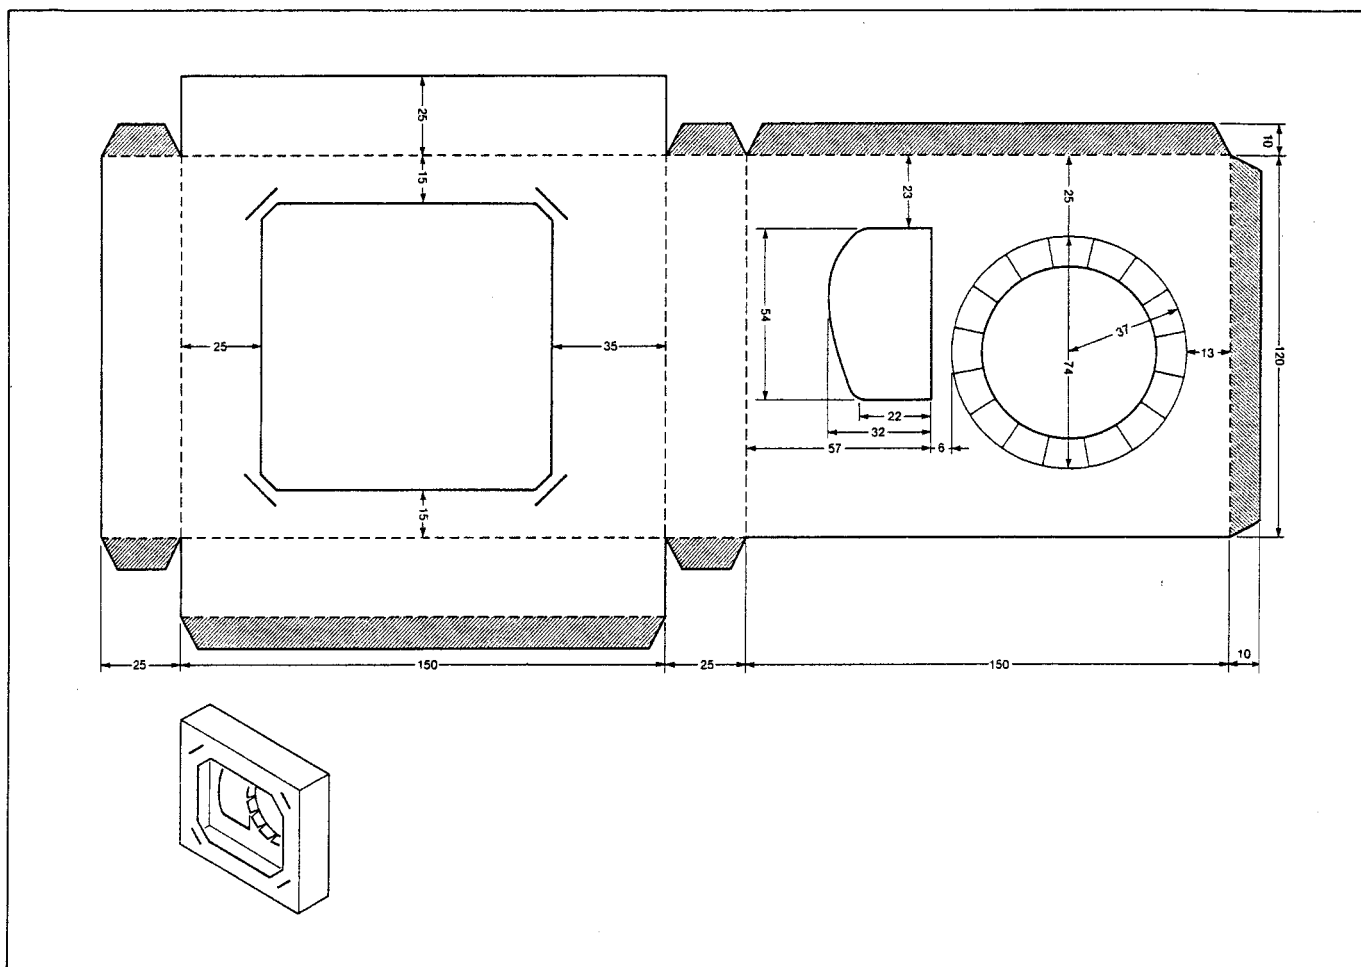

Fig. C25
- (1) Print the actual measure at the hard paper referring Fig. C25.
- (2) Cut the paper along the solid line.
- (3) Apply the past to the oblique line.
- (4) Fold the paper along the dotted line.
- (5) Construct the fixture referring completion drawing.